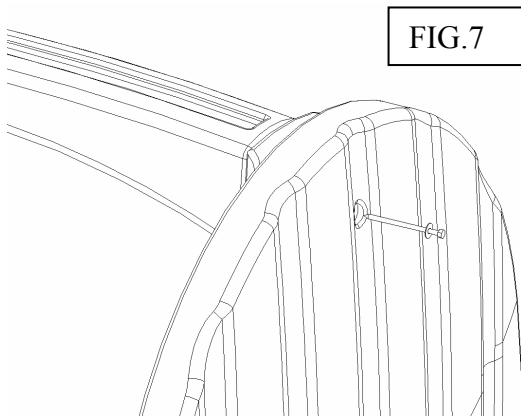

FIG.7
- 10) Fasten Part (B), top brace, with remaining two Parts (D) and Parts (E), 5/16" x 5 1/2" lag screws and fender washers, on each sidewall. **WARNING DO NOT OVERTIGHTEN SCREW.** (See fig.7 & 7a)